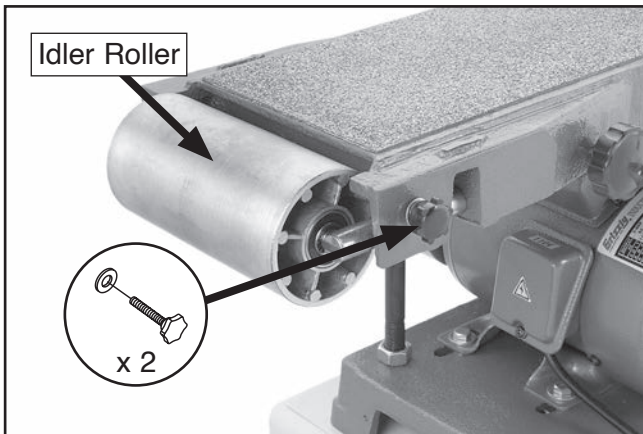

Figure 27. Idler roller installed.
18. Slide the flat ends of the idler roller into the slots on the roller adjustment bars (see **Figure 27**).
19. Install (1) $\frac{1}{4}$ "-20 x $\frac{1}{2}$ " thumb knob and (1) $\frac{1}{4}$ " flat washer onto each side of sander behind idler roller (see **Figure 27**).